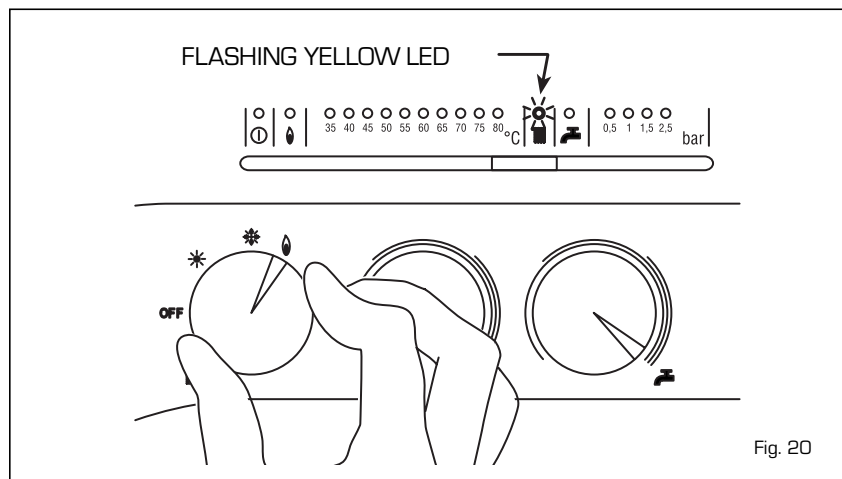

Fig. 20
4.4.1 Chimney sweep function (fig. 20)
To check single module combustion, rotate the selector to position (OFF) and hold, until the yellow led () starts to blink (fig. 20). At this time the module will start to heat at